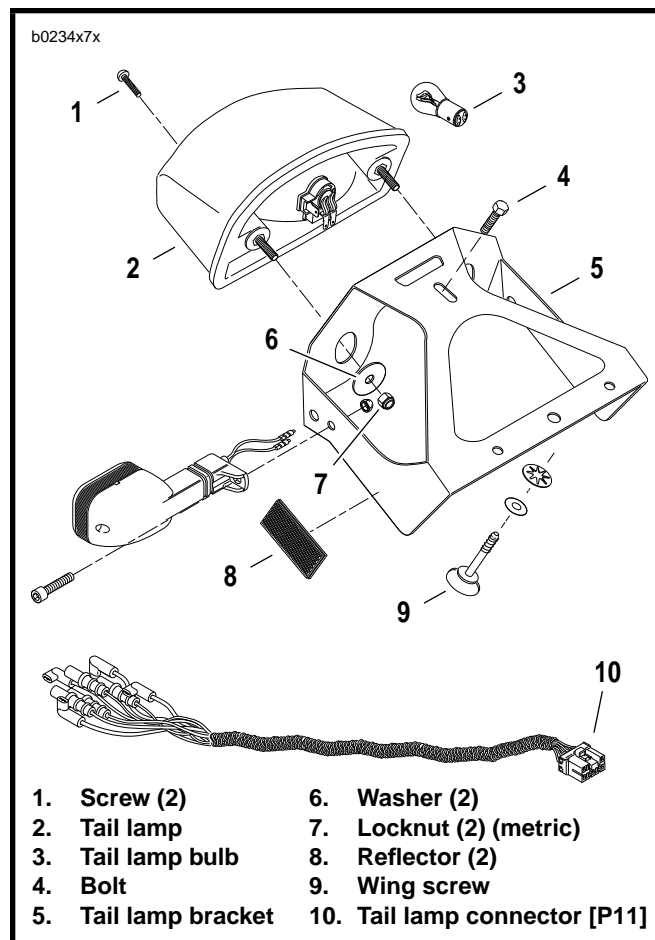
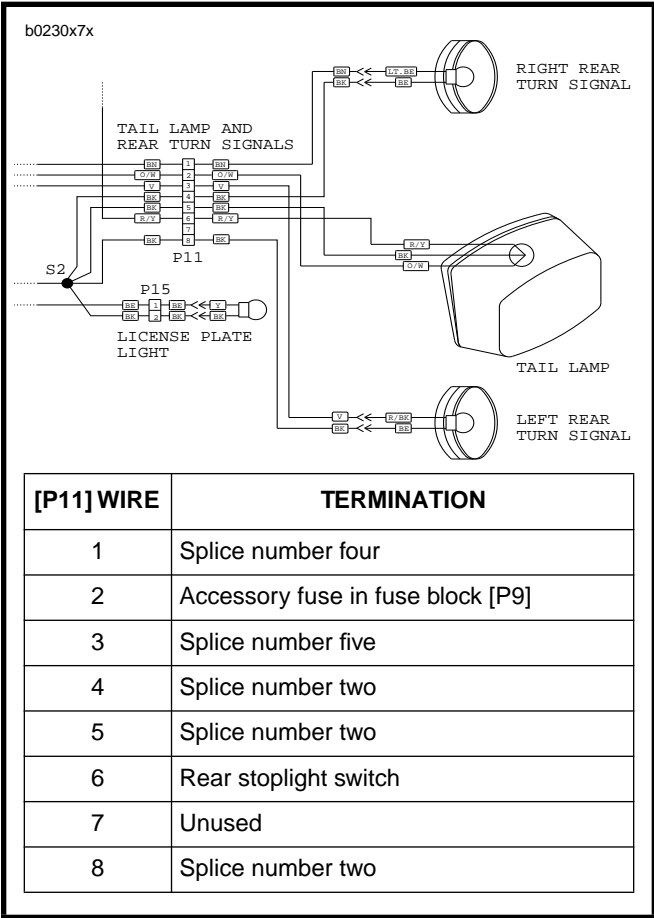

Figure 7-35. Tail Lamp
Figure 7-36. Tail Lamp Connector [P11]
1. See Figure 7-35. If necessary, remove tail lamp bulb (3).
- a. Remove two screws (1) to detach tail lamp lens.
2. Remove two locknuts (7) (metric) and washers (6).
2. See Figure 7-36. Cut cable straps holding tail lamp wiring harness to rear frame. Detach connector [P11] from main wiring harness.
3. See Figure 7-35. Remove seat wing screw (9).
4. Remove bolt (4) to detach bracket from frame.
7. Remove reflectors (8).
1. See Figure 7-35. Install reflectors (8).
2. Install tail lamp with washers (6) and locknuts (7) (metric).
4. Attach bracket (5) to frame with bolt (4) and seat wing screw (9).
5. Use **new** cable straps to secure tail lamp wiring harness to rear frame. Attach connector [P11] to main wiring harness. See Figure 7-36.
2. See Figure 7-35. Attach tail lamp to bracket with two locknuts (7) (metric) and washers (6).
- b. Install tail lamp lens with two screws (1).
2. Attach bullet connectors to wiring harness as shown in Figure 7-36.